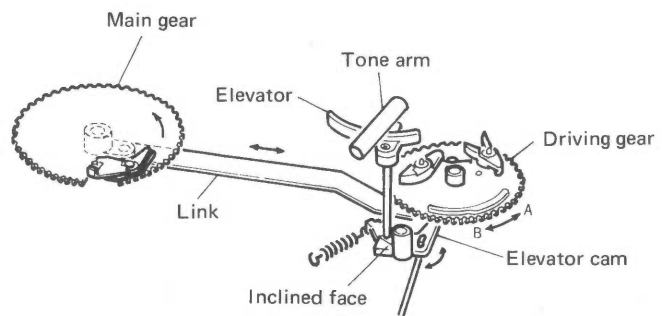
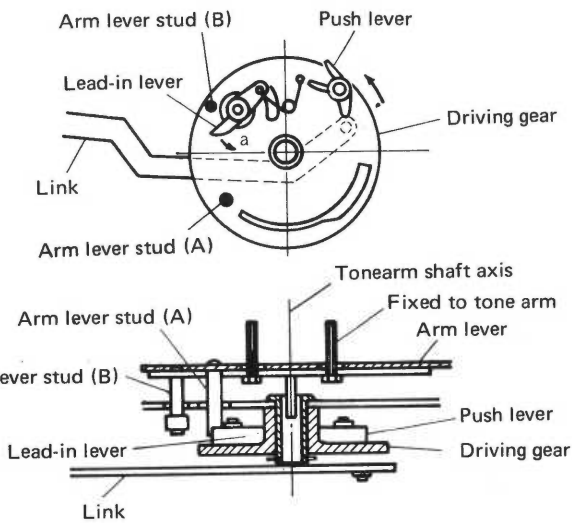

Fig. 5
Fig. 6
When the starting cycle begins and the main gear rotates, the driving gear is turned reciprocally by the link to reciprocate the elevator cam, as shown in Fig. 5.
In Fig. 6, the lead-in lever is moved in the direction (a) by the counterclockwise rotation (A) of the driving gear, as shown in Fig. 5. As a result, the lead-in lever passes the arm lever stud (A) without touching it. Therefore, the arm lever does not move. During the next process shown in Fig. 7, the lead-in lever strikes against the reset plate and is pushed back in the direction (a). When the driving gear returns in the clockwise direction (B), this time the lead-in lever pushes the arm lever stud (B), and the arm lever stud is moved in the direction of the arrow, as shown in Fig. 8. This finishes the final stage of the lead-in operation.